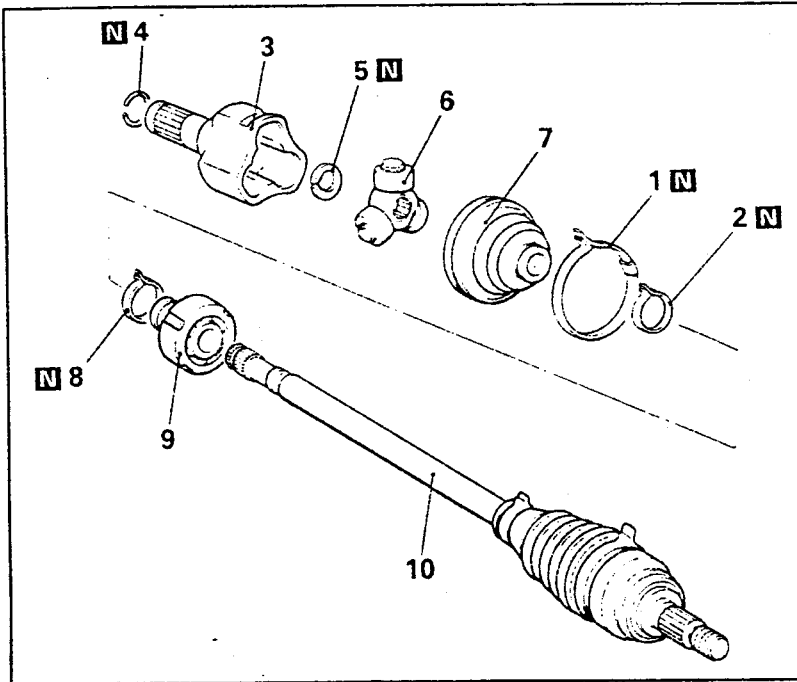

Fig. 9.4a. — Exploded view of a drive shaft.
As already mentioned above, this type of drive shaft joint, fitted to the outside of the drive shafts, must not be dismantled. Fig. 9.4a on the next page shows a drive shaft, indicating the parts which can be replaced. The shaft/joint assembly (10) must be replaced as a complete unit. A repair kit for the joint on the outside consists of the shaft with rubber boot and the parts of the dynamic damper.
The individual parts of the joint are shown in Fig. 9.4a. Remove the retaining band for the rubber boot, using a screwdriver and remove the boot from the joint housing.